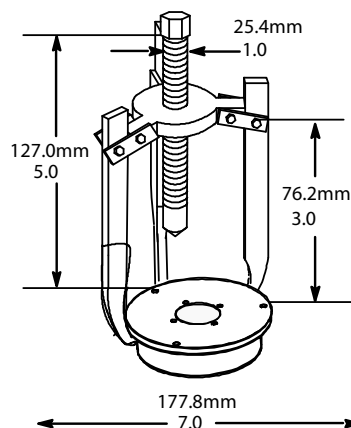

Figure 55 - 3-Arm Puller Dimensions
1. Remove the four (4) M10 screws from the dual bearing gland ring.
3. Remove the dual bearing eccentric with the 3-arm gear puller or a port-a-power. See Figure 55.
- a. Gently heat the outboard bearing to no greater than 250° F to help remove two (2) of the bearings.